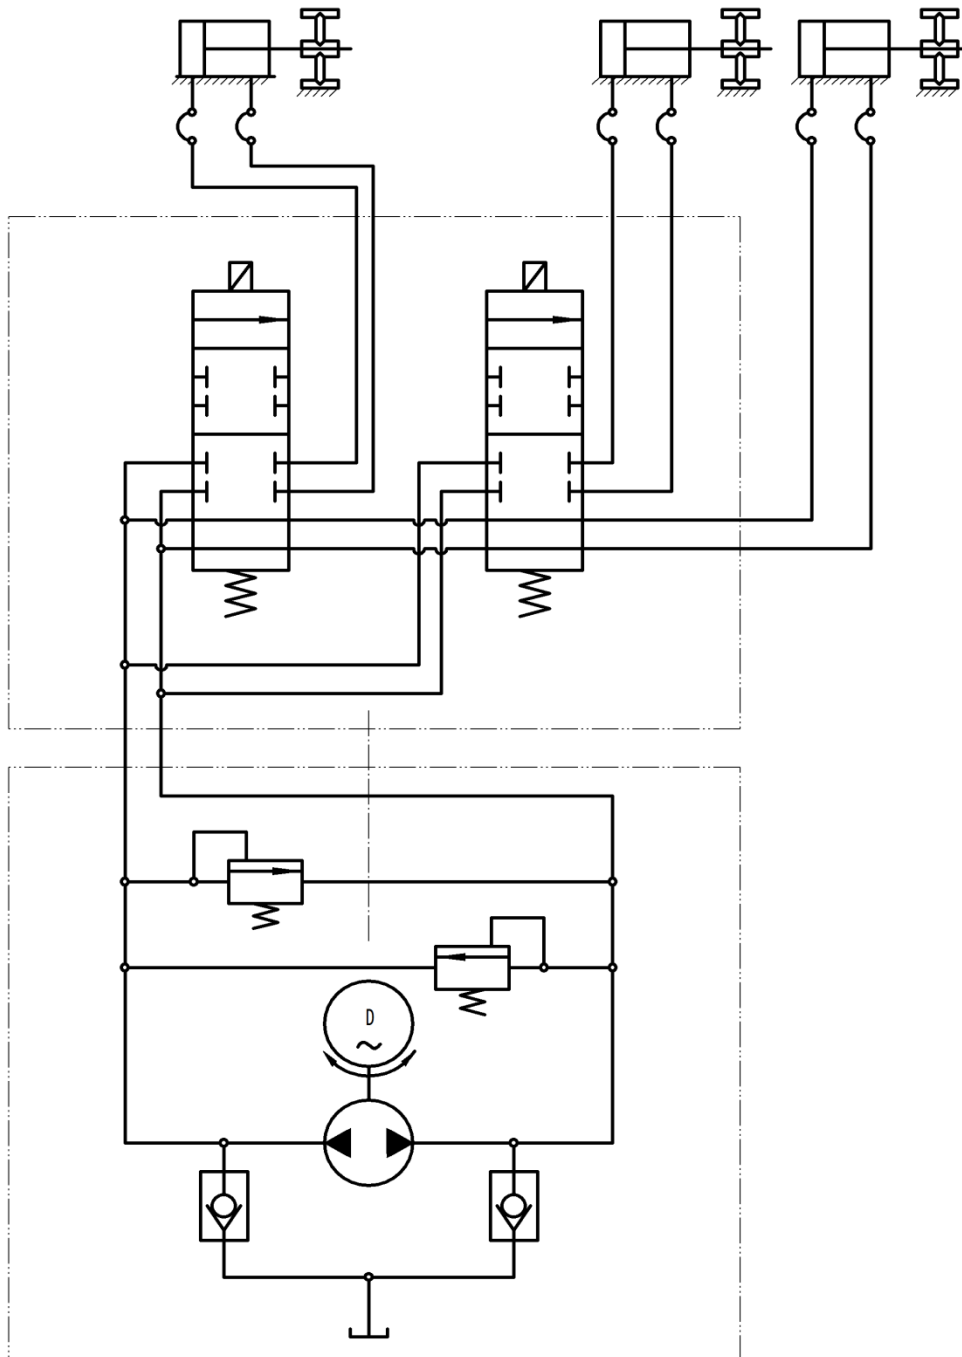

Figure 8.1
8.2 HYDRAULIC CLAMPING SYSTEM (Figure 8.1)